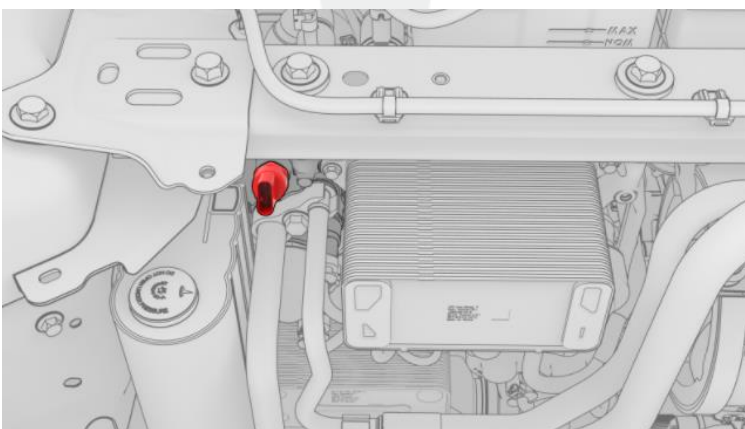

Figure 6
8. Use the HVAC socket kit special tool to remove the low pressure P/T sensor from the Supermanifold (Figure 6).
15. Install the new low pressure P/T sensor (brown connector) into the Supermanifold (Figure 6):